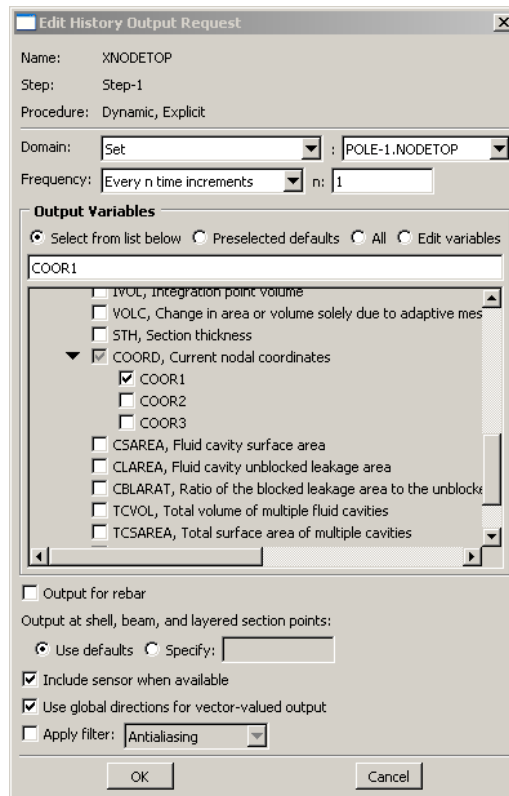

Figure 5-3: Creating history output sensor
- Under **Signal Options**, go to the **Sensors** tab. Two sensors need to be created for the output variable *COOR1*; one for each node of the beam. Click the **Create Sensor** button. The **Create History** dialog box will be posted. Enter **XNODETOP** as the history output name and click **Continue...** In the ensuing **Edit History Output Request** dialog, choose **Set** as the Domain and select the set **POLE-1.NODETOP** from the drop-down box. Choose **Every n time increments** for Frequency and enter a value of **1** for n. For the output variables, select **COOR1**. This will be under **COORD, Current nodal coordinates**, which in turn, can be found under **Volume/Thickness/Coordinates**. Toggle on **Include sensor when available** option to use this history output request as a sensor. Click **OK** to create the sensor. The dialog box will be as shown in Figure 5-3. The created sensor will now be displayed under the **Available Signals** list of the plug-in dialog. Create another sensor with the name **XNODEBOT** for the node set **POLE-1.NODEBOT** and output variable **COOR1**.